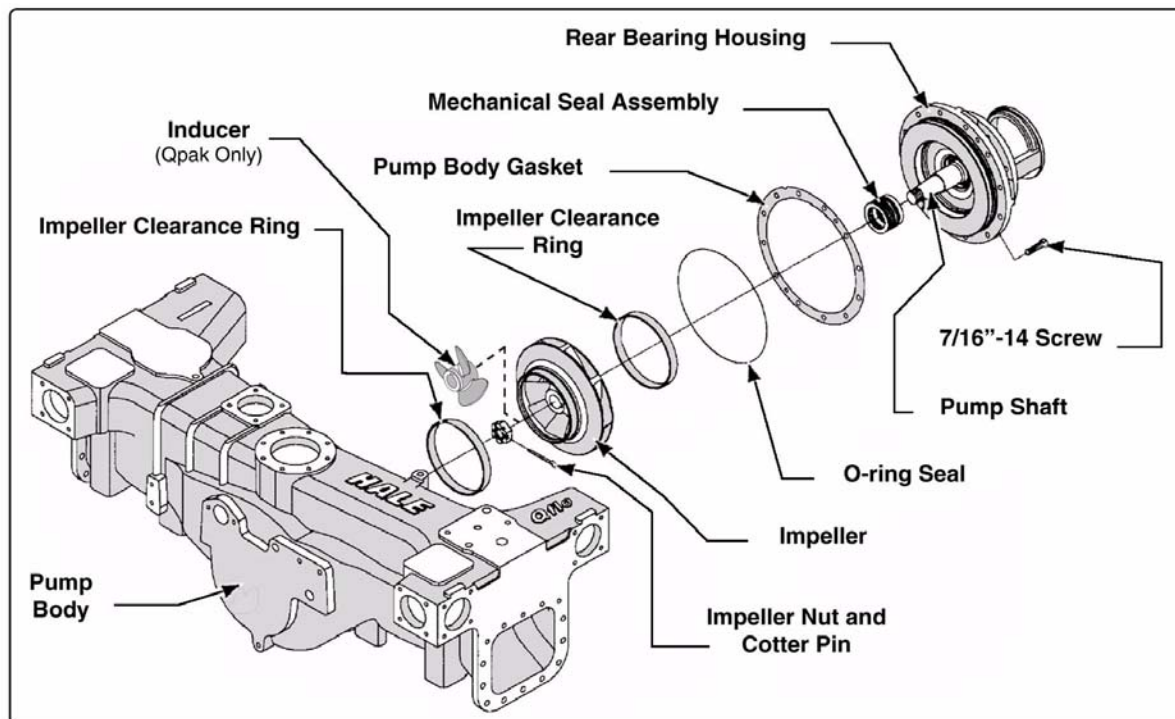

Figure 8-7: Qflo / Qflo-Plus / Qpak Mechanical Seal Assembly Overview
Review preceding sections “Before You Begin...,” on page 103 and “Cleaning and Inspection Guidelines,” on page 106. Also see Figure 8-7: “Qflo / Qflo-Plus / Qpak Mechanical Seal Assembly Overview” on page 144.
2. Remove the twelve 7/16-14 UNC screws and remove the bearing housing from the pump body. (See Figure 8-7: “Qflo / Qflo-Plus / Qpak Mechanical Seal Assembly Overview” on page 144.)